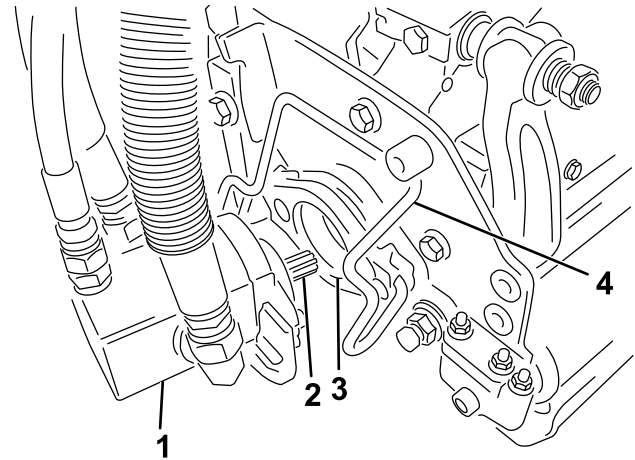

Figure 3
4. Insert the motor into the left side of the spiker unit (as viewed from the operator’s position), and pull the motor retaining bar on the spiker unit toward the motor until you hear an audible “click” from both sides of the motor (Figure 3).